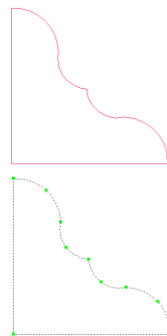

Fig. 237 – a path for user's own skirting board profile
- draw a polyline (example presented on figure 237);